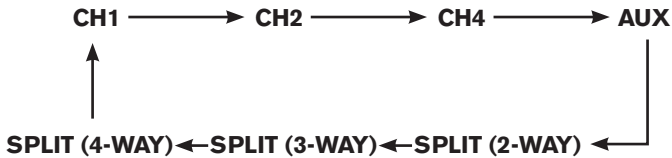

Fig. 3 Source Select Sequence
- Source input modes that are turned 'off' through the menu control function will be skipped (example, see Fig. 3 that shows sequence with CAM/INPUT 3 turned 'off').